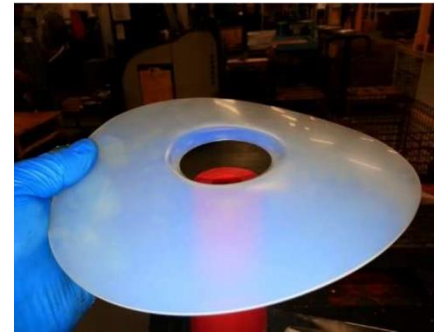

Figure 8.7
1. Install PFA diaphragm with assistance of G4X diaphragm guide; install with reverse lip pointing down as shown in Figure 8.7.